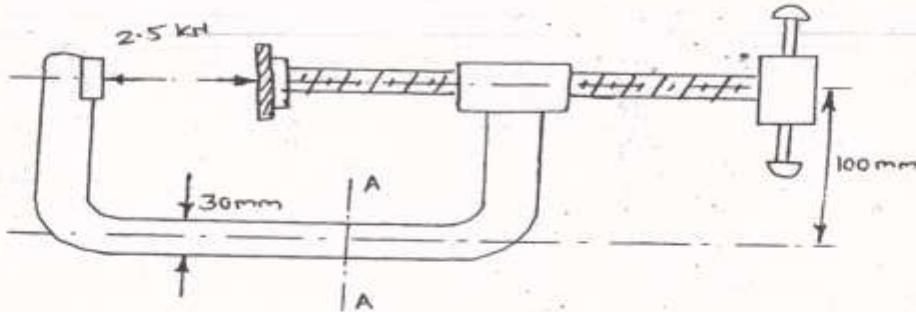

Fig. No. 3
- e) A clamp made up of rectangular cross-section  $30 \times 10$  mm as shown in Figure No. 3 is subjected to a force of 2.5 kN. Find the stresses induced at section A-A.